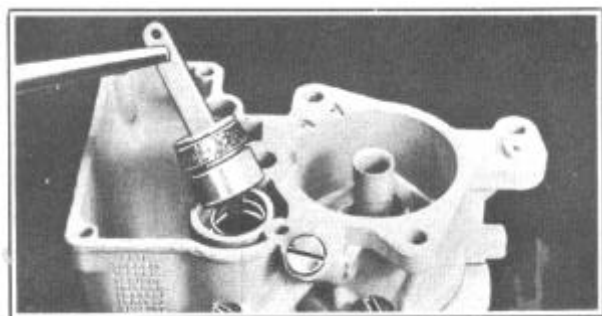

FIGURE 33
14. Install pump spring and pump plunger and rod assembly, Figure 33. Examine leather of plunger for damage. If leather is not in good condition, replace entire plunger assembly.